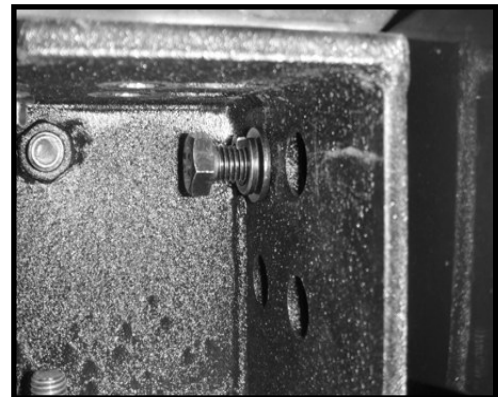

Figure 2.
2. It is necessary to temporarily locate and secure the tow hitch in order to ease the installation of backing plates. While supporting the tow hitch thread a supplied M12 bolt through the top right corner of the sub-frame and into the corresponding welded nut of the tow hitch (Figure 2).